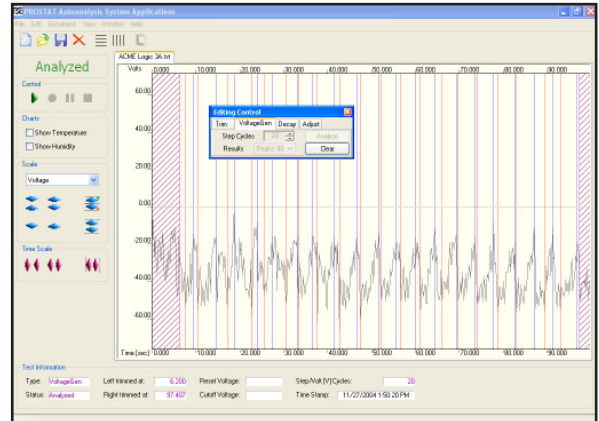

Figure 31: Representative number of Cycles entered in Voltage Generation
4. Press the **Voltage Gen** tab and enter the number of step cycles or measurement peaks between the trim points on the chart and press Analyze. If a clear number of peaks are entered and the program confirms through its algorithm, it will display a series of Min and Max peaks with vertical lines for each step cycle as shown in Figure 31.